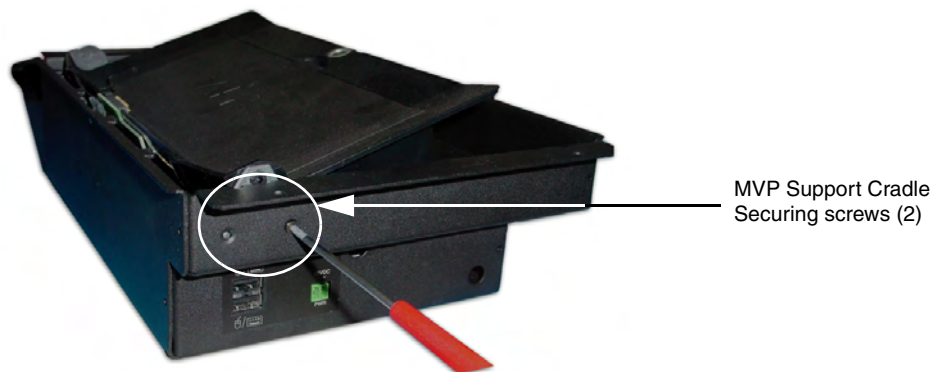

FIG. 22 Removing the MVP Support Cradle securing screws
- 1.** Unscrew the two MVP Support Cradle Securing screws, located on the lower right side of the unit (*just above the USB connectors*) (FIG. 22) and set them aside.
- 2.** Insert the screwdriver into the large hole on the side of the existing black WDS housing (FIG. 22).
10. Align the MVP Support Cradle Securing plate (FIG. 22 on page 21) to its corresponding holes along the outside of the housing and screw in the remaining two MVP Support Cradle Securing screws back to the lower right side of the unit (FIG. 22 on page 21).